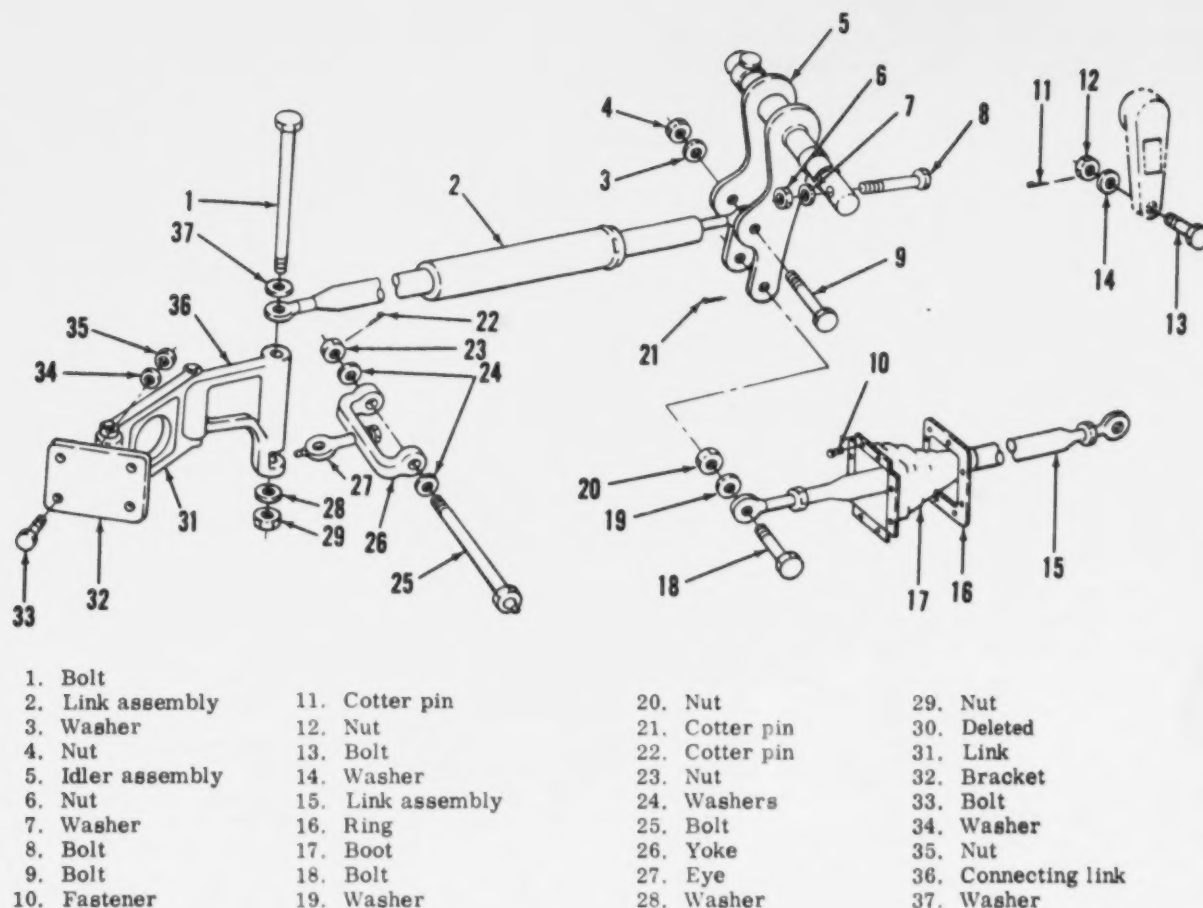

Figure 4-38. Nose wheel steering mechanism
4-294. The nose wheel steering mechanism consists of link assemblies (2 and 15, figure 4-38), idler assembly (5), link (31), connecting link (36), bracket (32), and eye assembly consisting of yoke (26) and eye (27). The nose wheel steering mechanism is operated by the rudder pedals of the rudder control system. The link assembly (2) is spring-loaded to absorb steering shocks which would be transmitted to the rudder pedals. An automatic centering device assures proper nose wheel and tire assembly alignment for retraction of the nose landing gear assembly.
a. Removal. (1) Remove nose cone or radome. (Refer to paragraph 4-13 or 4-15.)
(2) Turn nose wheel and tire assembly to full left position.
(3) Remove bolt (1, figure 4-38), washers (28 and 37), and nut (29) connecting link assembly (2) and eye (27) to connecting link (36).
(4) Remove bolt (9), washer (3), and nut (4) and remove link assembly (2) from nose wheel well.
(5) Remove cotter pin (22), bolt (25), washers (24), and nut (23) and remove yoke (26) and eye (27) as an assembly.
b. Cleaning. Clean nose wheel steering mechanism with dry cleaning solvent (item 6, table 1-8) and dry with filtered, compressed air.
d. Installation. (1) Position idler assembly (5, figure 4-38) on structure of nose wheel well and install bolt (8), washer (7), and nut (6).
(2) Position boot (17) and ring (16) on structure of nose wheel well and secure with fasteners (10).
(3) Position link assembly (15) in boot (17) and fasten boot to link assembly.
(4) Connect aft end of link assembly (15) to arm on rudder pedal torque tube with bolt (13), washer (14), nut (12), and cotter pin (11).
(5) Connect forward end of link assembly (15)